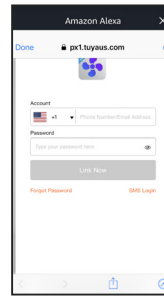

Fig. 6
**Step 3.** Login to your RolliCool account and tap “Link Now”. Follow any additional in-app instructions as needed (fig. 6).